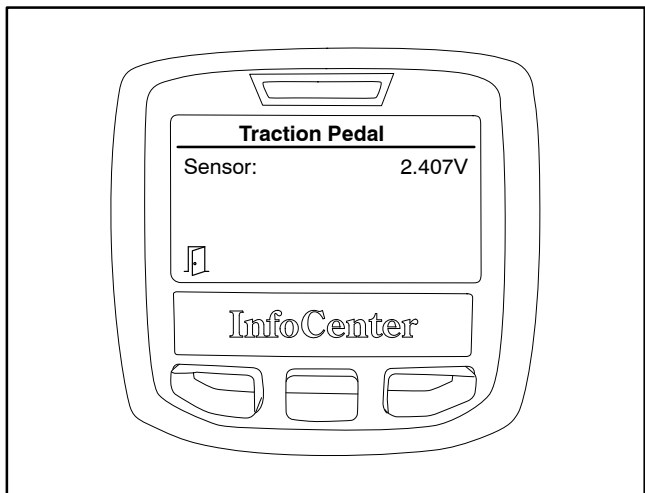

Figure 20
3. Use the InfoCenter Display Diagnostics menu (see InfoCenter Display in this chapter) to obtain and select the Traction Pedal menu item. Choose Inputs and the InfoCenter display should identify sensor voltage (Fig. 20).